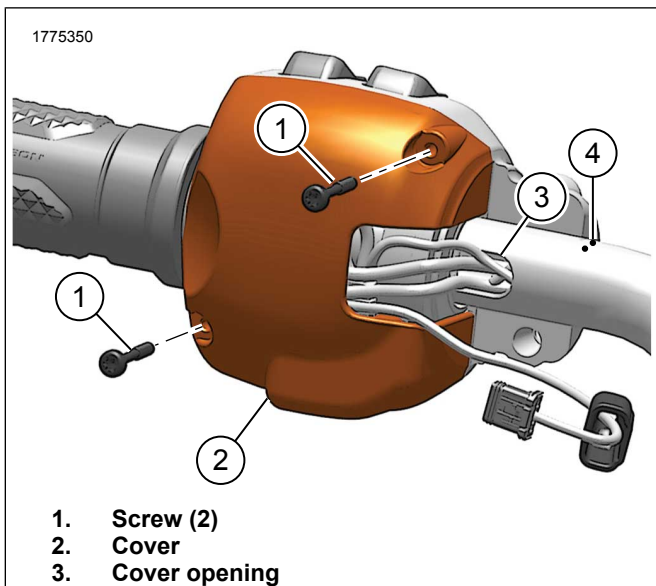
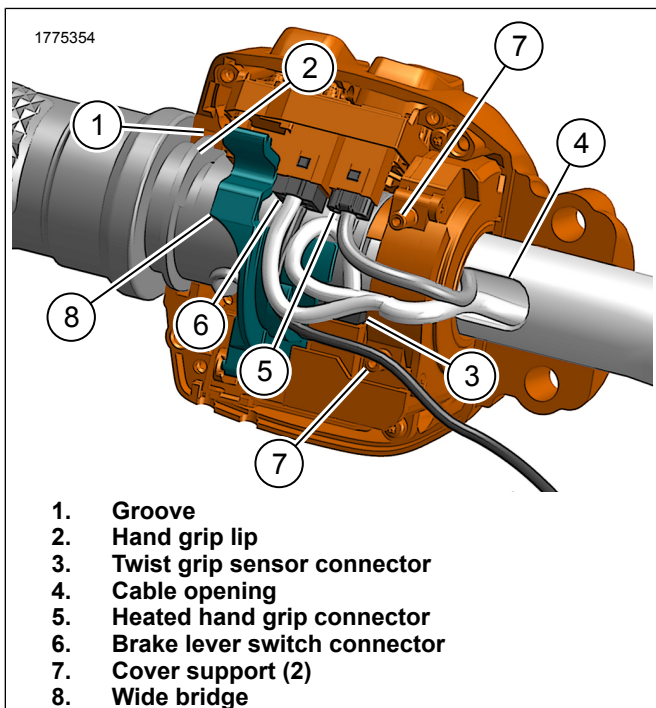
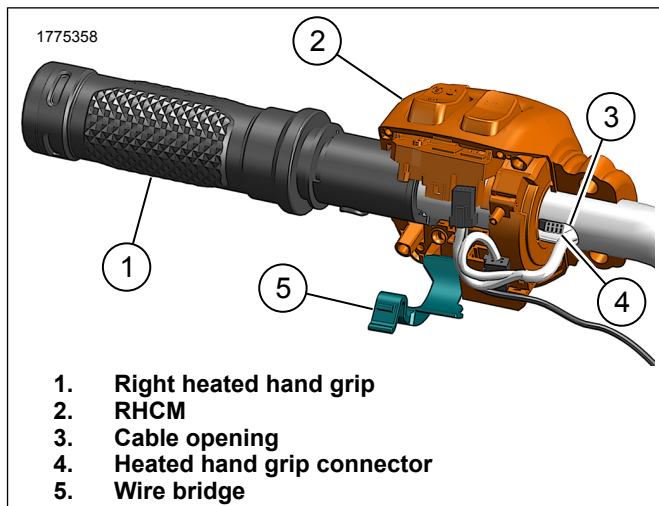

Figure 9. RHCM Cover
Figure 10. RHCM Connections
Figure 11. Right Grip Removal/Install
2. Figure 9 Remove RHCM cover.
- a. Remove screws (1).
- b. Remove cover (2).
3. Figure 10 Disconnect connectors.
- a. Disconnect brake lever switch connector (6).
- b. Disconnect heated hand grip connector (5).
- c. Disconnect twist grip sensor connector (3).
4. Figure 11 Remove right heated hand grip.
- a. Open wire bridge (5).
- b. Remove hand grip (1) while feeding hand grip connector (4) through cable opening (3).
- c. Remove hand grip (1).
5. Remove RHCM (2).
1. Figure 11 Install right heated hand grip.
- a. Feed hand grip cable through handle bar while guiding right hand grip (1).
- b. Pull hand grip connector (4) out through cable opening (3).
- c. Figure 10 Install lip (2) of grip in groove (1) on RHCM.
- d. Close wire bridge (8).
2. Install RHCM (2) on handlebar.
3. Figure 10 Connect connectors.
- a. Connect twist grip sensor connector (3).
- b. Connect brake lever switch connector (6).
- c. Connect heated hand grip connector (5).
- a. Figure 10 Verify cables are between cover supports (7).
- b. Figure 9 Guide cables through cover opening (3).
- c. Install cover (2).
- d. Install screws (1). Tighten.
This ridge should be pre-assembled into RHCM groove at this point when it's being slid onto the handlebar as shown in Figure 10.